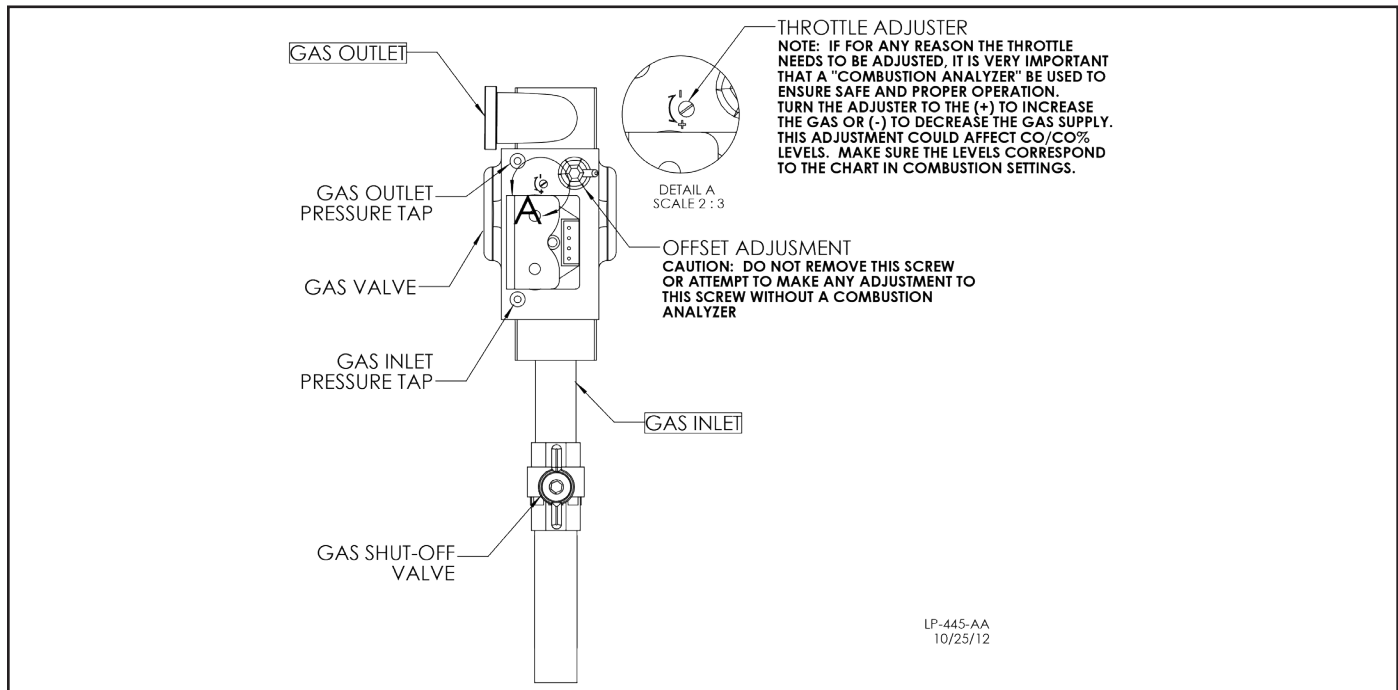

Figure 32 - 500 Model Gas Valve
2. Loosen the pressure tap with a small screwdriver. Refer to Figures 32 and 33 for location.